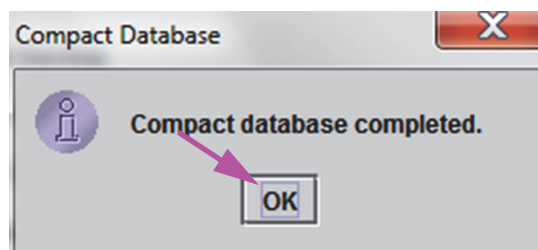

Figure 5-74. Compact Database Completed Dialog Box
3. Click **Proceed** to compact the database. When the database compacting has completed, the Compact Database complete dialog box will appear. See Figure 5-74.